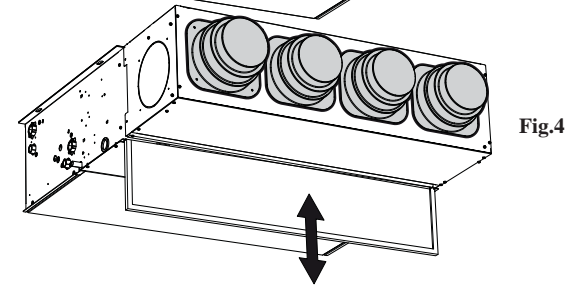

Fig.4
- The filter remains in its original position and can be extracted for routine maintenance/replacement (fig.4).